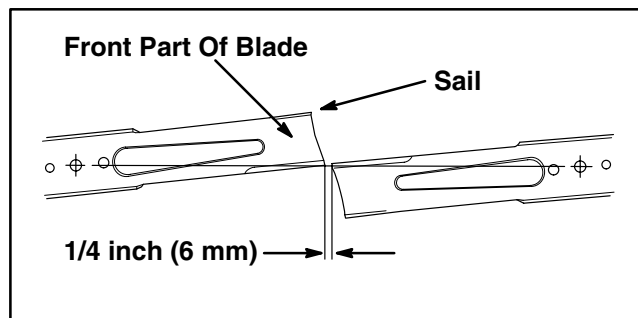

Figure 27
- E.** Rotate adjacent blades until cutting edge tips are aligned directly across from each other as shown in figure 27.